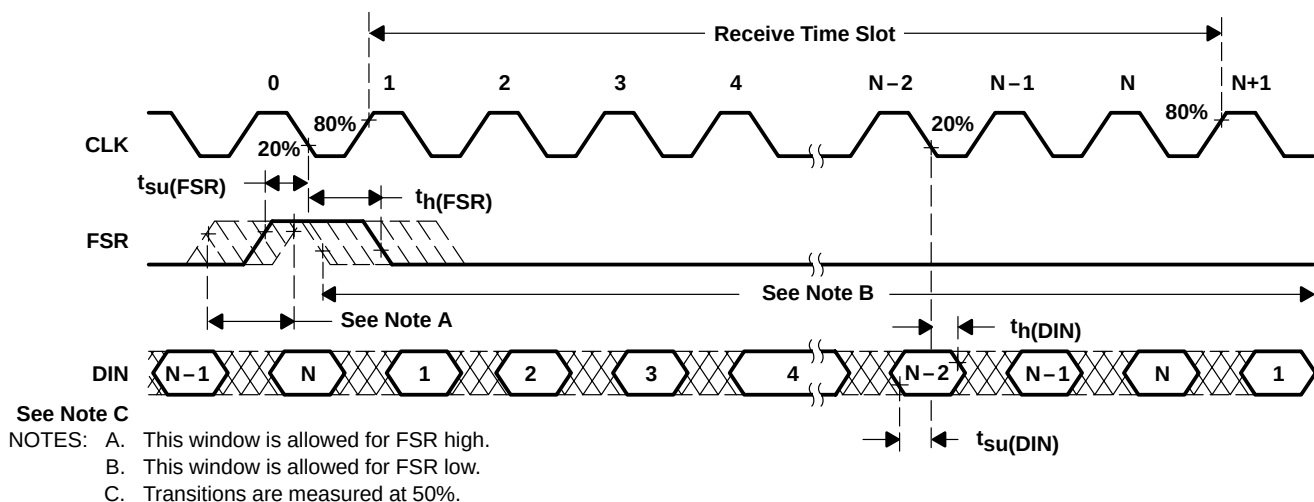
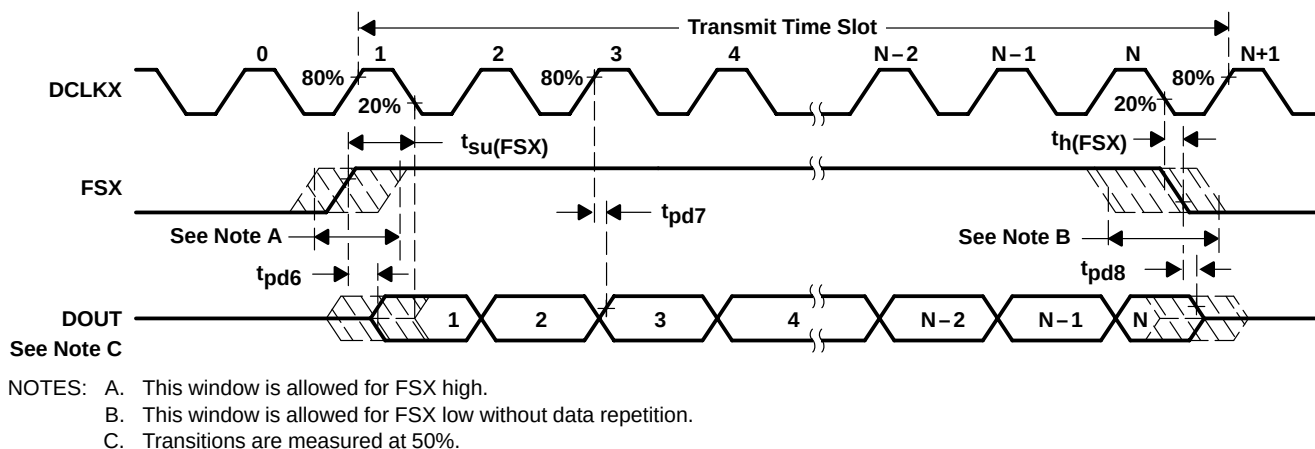

Figure 1. Fixed-Data Rate Mode, Receive Side Timing Diagram
Figure 4. Variable-Data Rate Mode, Transmit Side Timing Diagram
**clock timing requirements over recommended ranges of supply voltage and operating free-air temperature (see Figure 1 through Figure 4)**
**receive timing requirements over recommended ranges of supply voltage and operating free-air temperature, fixed-data-rate mode (see Figure 1)**
**transmit timing requirements over recommended ranges of supply voltage and operating free-air temperature, variable-data-rate mode (see Figure 4)**
propagation delay times over recommended ranges of operating conditions, variable-data-rate mode (see Figure 4)